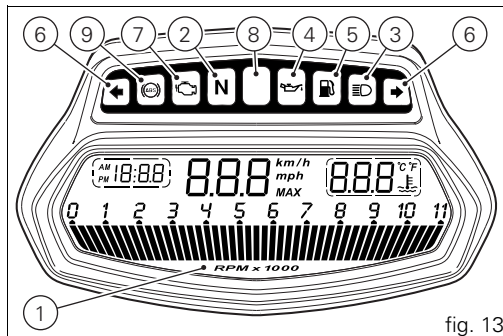

fig. 13
- 8) "Over rev" limiter light/ "DTC" traction control light (RED) (fig. 13):
- 9) ABS LIGHTS  (AMBER YELLOW) (fig. 13). This turns on to indicate that ABS is disabled or not functioning.
In the event of a sensor "error", a string of flashing dashes (" - - - ") is shown and the "Engine/ Vehicle diagnosis - EOBd" light comes on. (7, fig. 13).